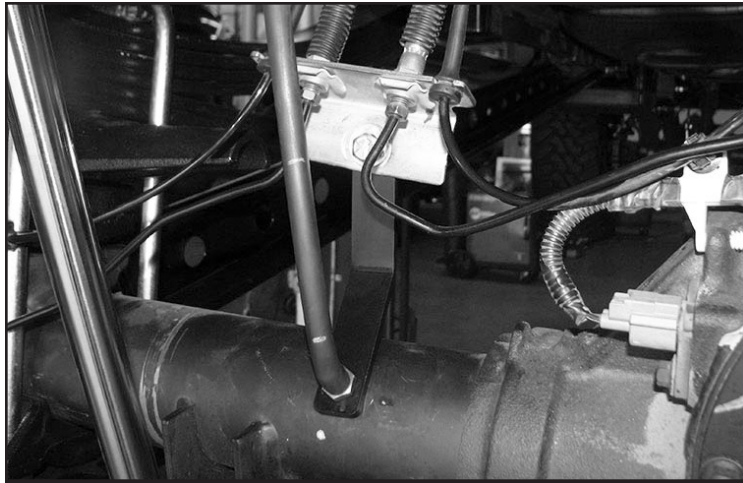

FIGURE 5 - STEP 6
6. (11-UP MODELS) Locate the factory brake line mount on the driver side of the axle. Remove the vent line from the bolt and remove the bolt. Save hardware. Locate the supplied brake line bracket FT30059 from the front box kit and attach the side with the sleeve to the axle using the factory hardware. Using the supplied 3/8" x 2" bolt, nut and washer, attach the brake line to the other end of the bracket. Reattach vent line. **SEE FIGURE 5**